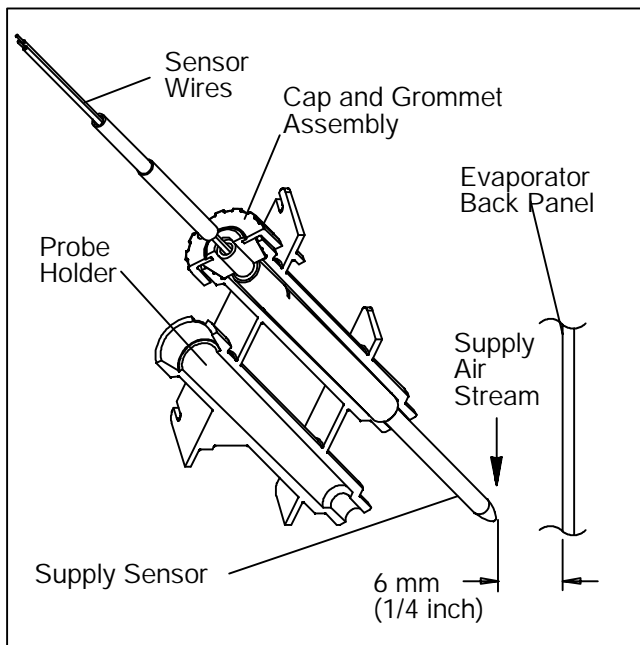

Figure 6-23 Supply Sensor Positioning
- m. Position sensor in unit as shown in Figure 6-23 and re-check sensor resistance.
It is also necessary to ensure that the probe tip does not contact the evaporator back panel. The design minimum clearance of 6 mm (1/4 inch) should be maintained (see Figure 6-23).